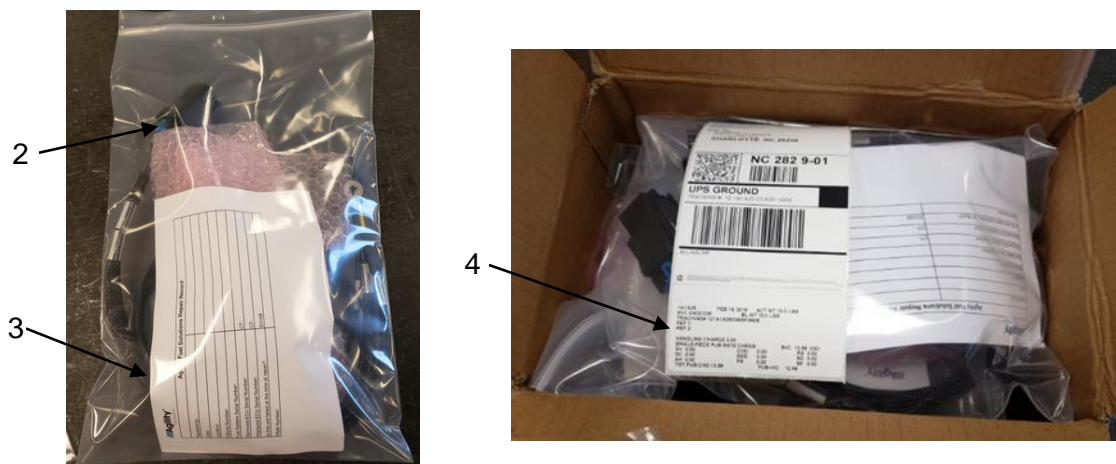
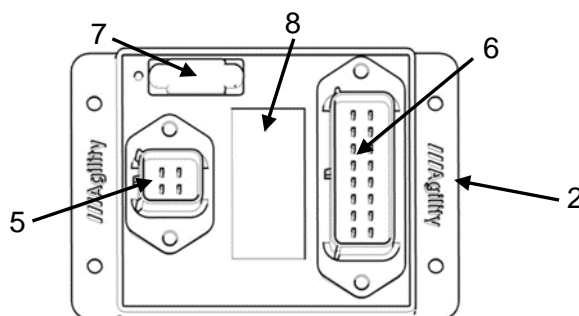

Figure 2.
Figure 4.
Agility Fuel Solutions p/n 69500003 kit contents (Figure 2):
NOTE: If multiple repairs are required at a single facility the Agility package will contain a corresponding number of repair kits with a single RMA label (4). Figure 2
4. The ECU (2) is a black controller with three ports: 4-pin harness connector (5), 16-pin harness connector (6), 9-pin D-Sub connector (7) which should be capped. Figure 4
8. Use provided repair report form ENF-038 (4) (*Figure 2*) to record the serial number from label (6) of both removed ECU and replacement ECU 20101205. *Figure 4*
- b. Place ECU(s) along with completed ENF-038 report form(s) in the zip lock bag(s) from the replacement kit(s). *Figure 2*
- d. Affix RMA label (4) to box. If multiple kits were sent to the facility, one label is supplied to return all removed ECU(s). *Figure 2*